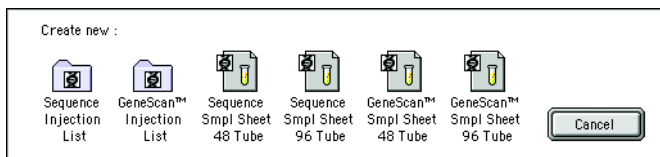

Figure 5-7 Create new window
5. To create a new injection list, select **File > New**. Figure 5-7 is a Create new window to create a new injection list.